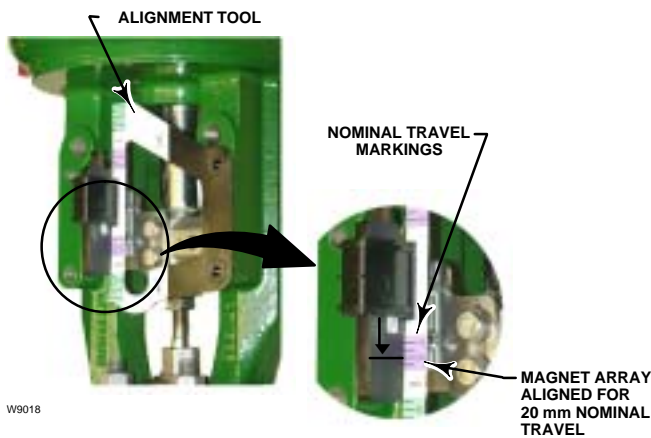

Figure 2-8. Air-to-Open Fisher GX Magnet Array Alignment
3. Find the mark on the **lower** travel scale that corresponds with the actual valve travel. See figure 2-8.